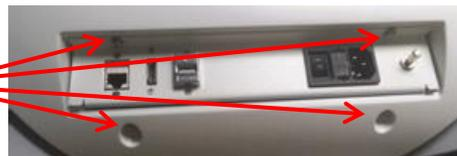

Figure 123: Screws Securing IO Plate Assembly
4. Using a 2.5 mm hex driver, place the hex screws to secure the *I/O Plate* to the cart (refer to Figure 123).